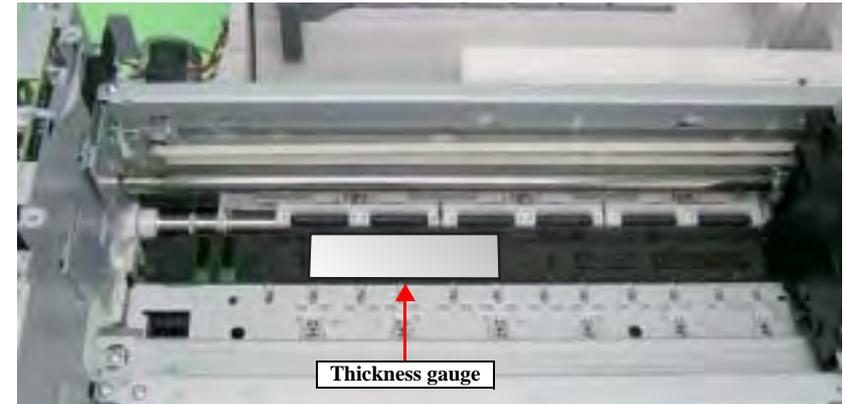

Figure 5-7. Placement Position for Thickness Gauge
- 16. Set the thickness gauge at position shown by refer to Figure 5-7 again.